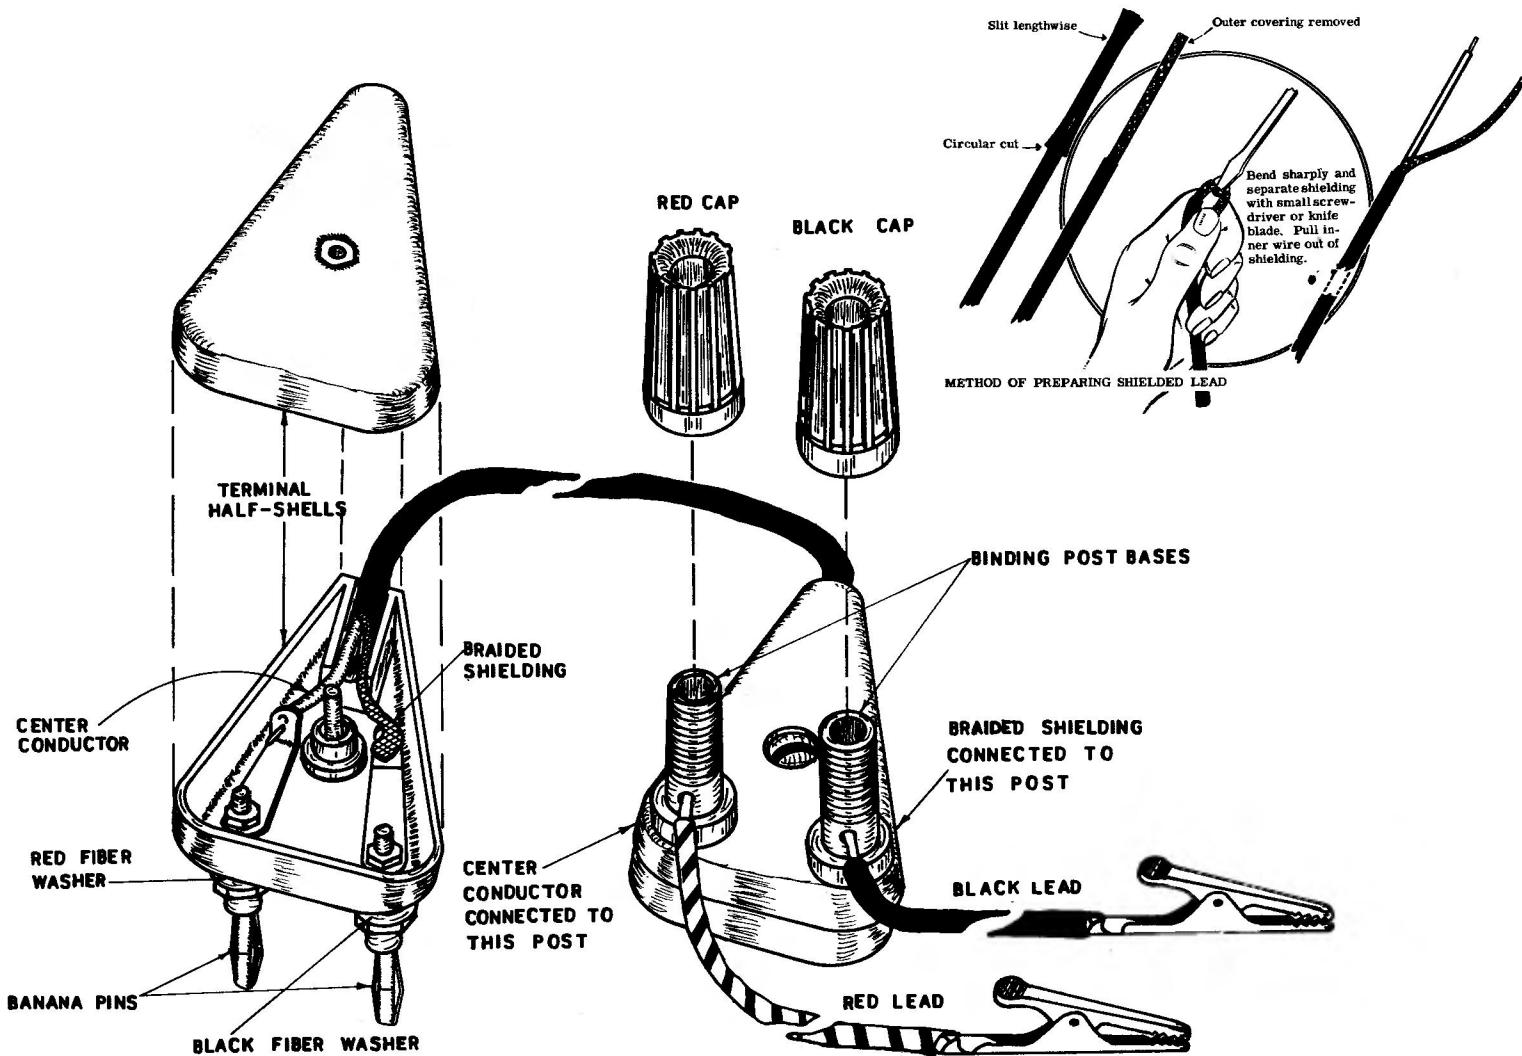

Figure 10
- See Figure 10 for the following:
- ( ) Install two banana pins through the mounting holes of a terminal half-shell with a fiber washer (red or black) on the outside and with a #6 solder lug and 6-32 nuts on the inside. Install the red fiber washer and the black fiber washer on the same sides as shown in Figure 10.